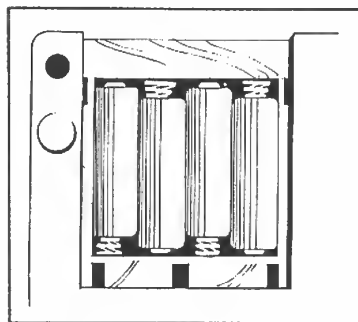

Figure 1.1 Installing the batteries
1. Get 4 size AA alkaline batteries and place them in the slide-out compartment on the bottom of the machine (Figure 1-1).